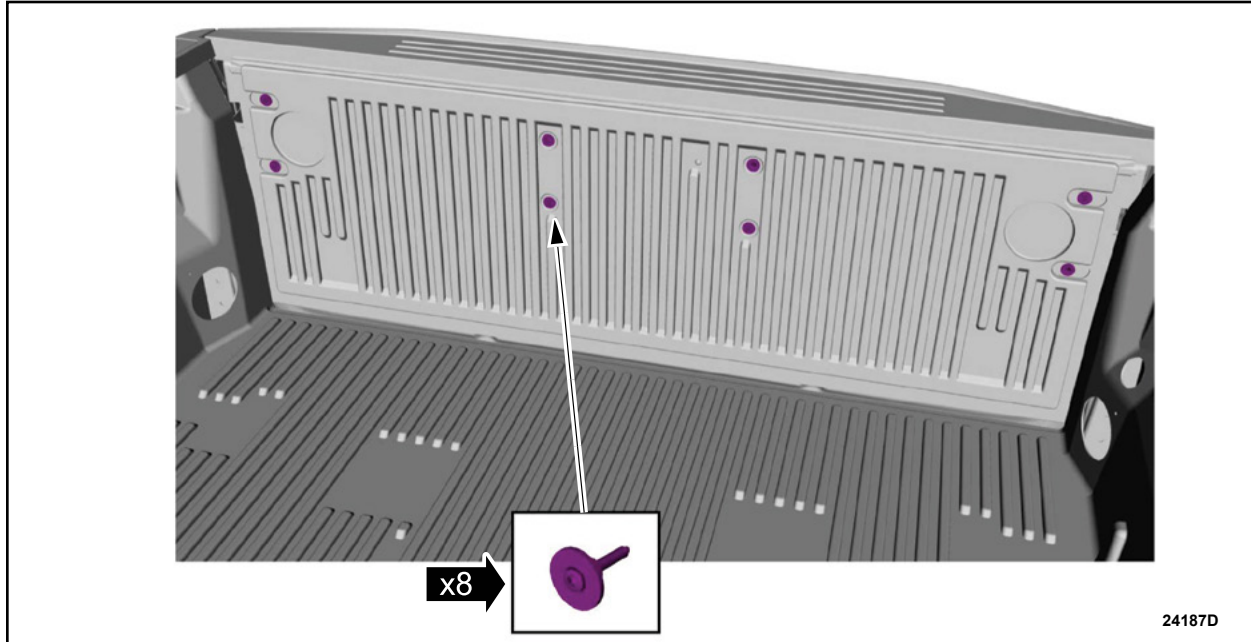

FIGURE 19
20. If equipped, install the screws and secure the tailgate liner and access panel to the tailgate. See Figure 19.